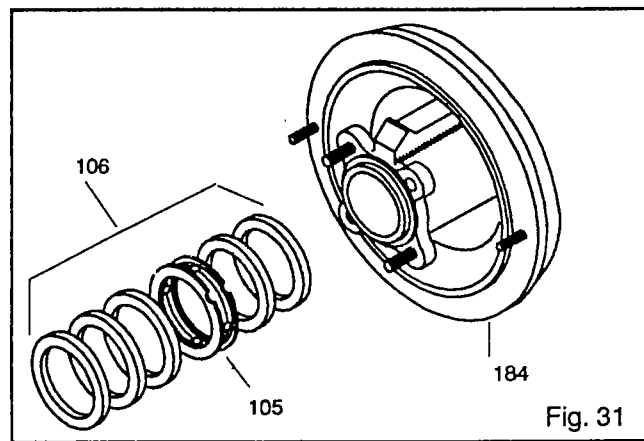

Fig. 31
5. Remove packing (106) and lantern ring (105) from stuffing box cover (184) (Fig. 31).